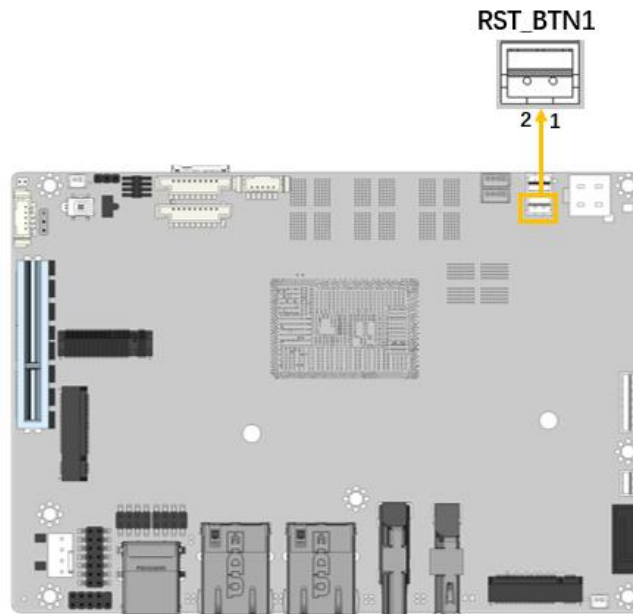

Figure 3-14: Reset Button Connector Location
- CN Location:** See **Figure 3-14**